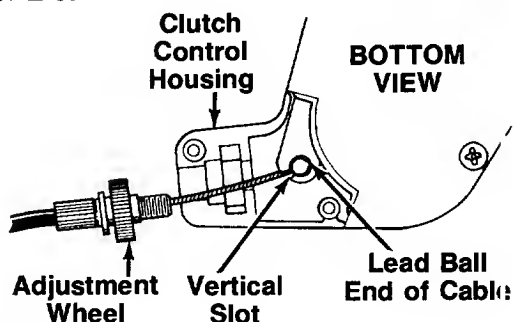

FIGURE 4.
1. Place the lead ball end of the cable into the fitting provided in the end of the clutch control lever. Slip the braided wire into the vertical slot as shown in figure 4.
3. Make certain the adjustment wheel is threaded onto the cable as far as possible as shown in figure 4. Place the adjustment wheel into the clutch control housing.